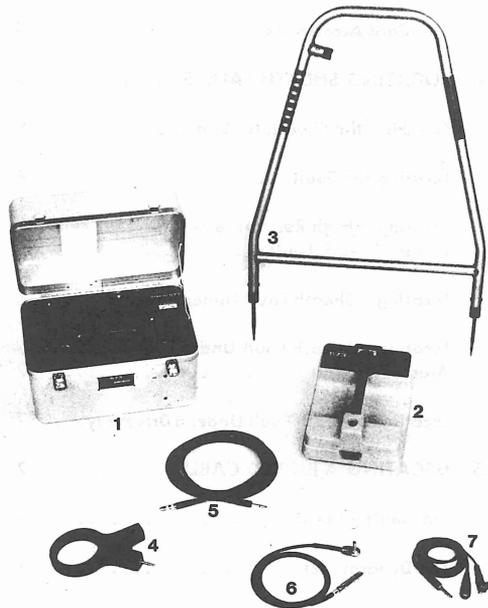

Figure 3-1. Equipment and Accessories
3. EQUIPMENT DESCRIPTION (See Figure 3-1)